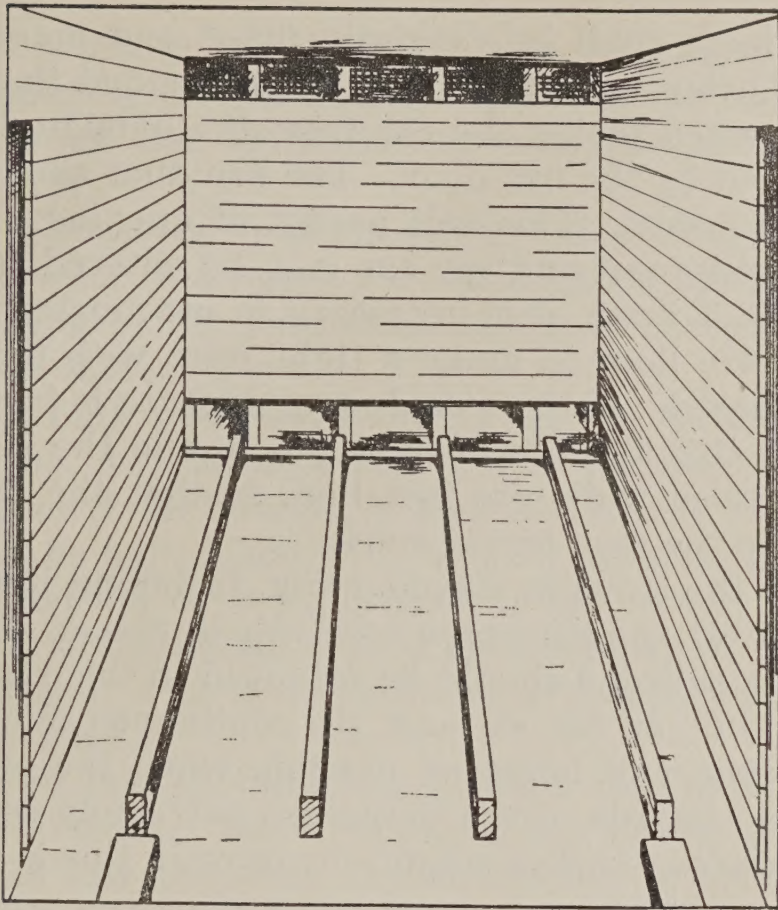

FIG. 21.—False floor stringers in place in well-constructed refrigerator car.
3. Lay 4 pieces of 2 by 4 in. studding on the floor in each end of the car for stringers, the 2 in. side against the floor (fig. 21). Do not nail these to the floor.1 The stringers should be evenly spaced parallel to the sides of the car with one end tight against the ice bunker bulkheads. The two outside stringers at each end must be in the same straight line.